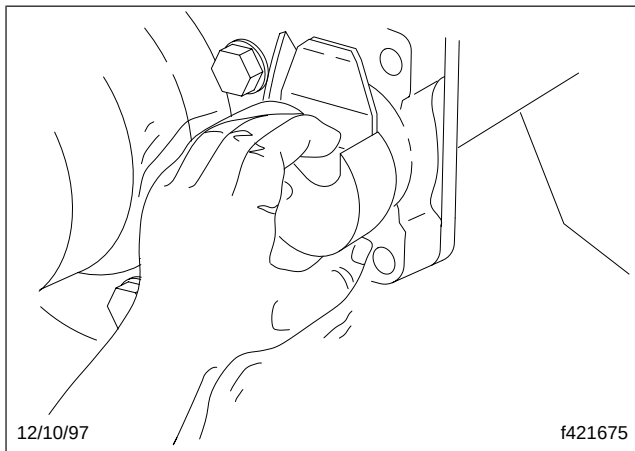

Fig. 8, Removing the Camshaft
7. Remove the camshaft by grasping its head and pulling the camshaft outboard from the brake spider and camshaft-and-chamber bracket. See **Fig. 8**. Then, remove the thrustwasher from the camshaft.